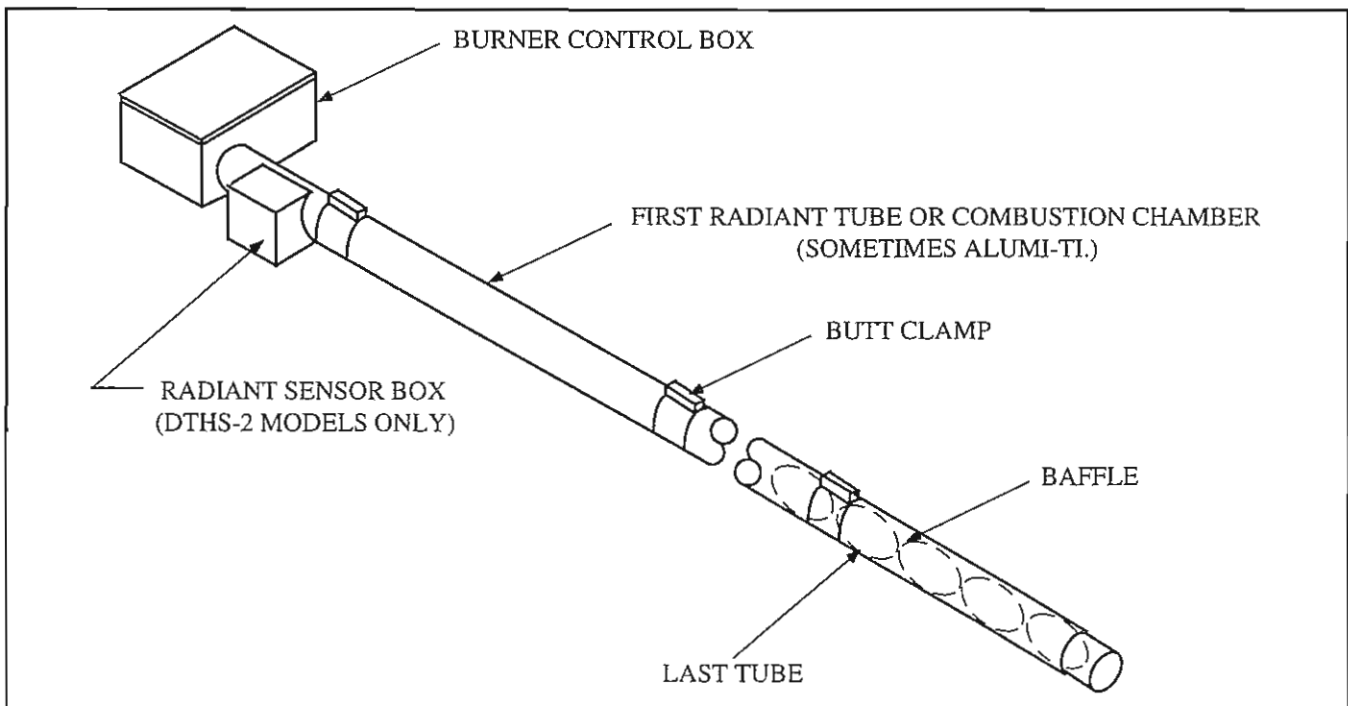

Figure 1-12
**IMPORTANT:** The DTHS models utilize one or two baffle(s) which must be installed in the last radiant tubes. Install these baffles before assembling tubes for ease of installation. See Figure 1-12. All baffles must be in the vertical position.